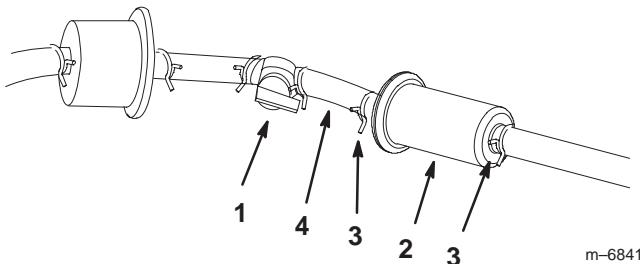

Figure 48
2. Close the fuel shut-off valve (Fig. 48).
3. Loosen the hose clamp at the fuel filter and slide it up the fuel line away from the fuel filter (Fig. 48).
4. Pull the fuel line off fuel filter (Fig. 48). Open fuel shut-off valve and allow gasoline to drain into a gas can or drain pan.
5. Install the fuel line onto the fuel filter. Slide the hose clamp close to the fuel filter to secure the fuel line (Fig. 48).